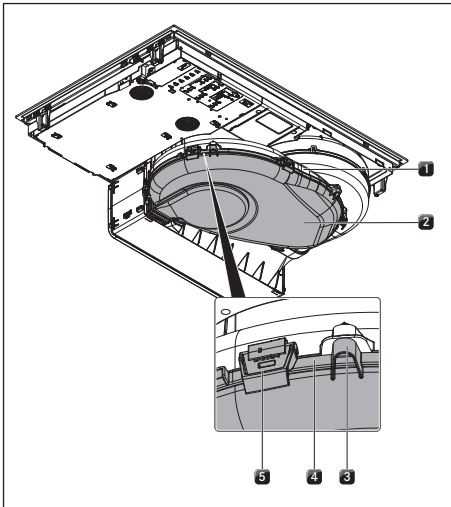

Fig. 8.4 Air guiding housing
- ▶ Inside the inlet opening pull the filter replacement cover out of the filter housing opening (to remove the filter replacement cover see Fig. 8.4).